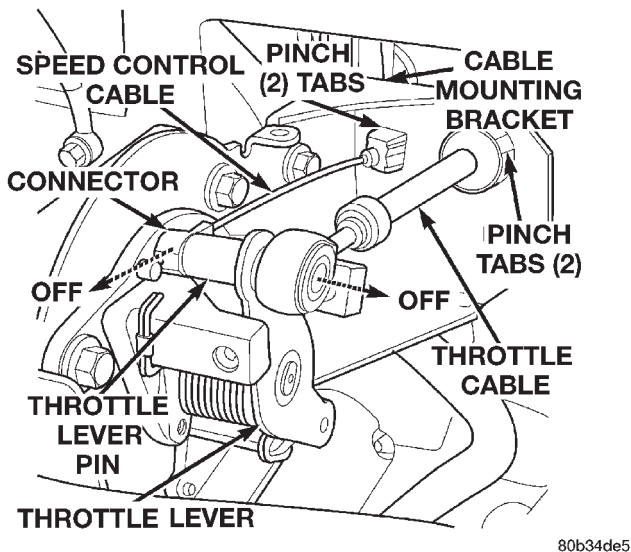

Fig. 42 Throttle Cable at Throttle Lever
(7) Using 2 screwdrivers, pry cable connector socket from throttle lever ball (Fig. 42). **Be very careful not to bend throttle lever arm.**
(8) Squeeze 2 pinch tabs on sides of throttle cable at mounting bracket (Fig. 42) and push cable rearward out of bracket.
(1) Install cable through mounting hole on cable mounting bracket (Fig. 42). Cable snaps into bracket. Be sure 2 pinch tabs are secure.
(2) Using large pliers, connect cable end socket to throttle lever ball (snaps on).